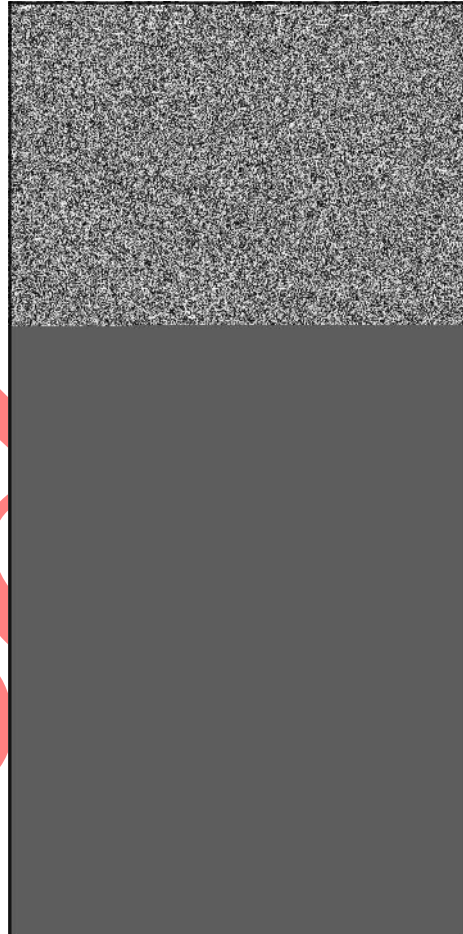

Figure 24
1. Remove muffler brace screws (**A, B, C**, Figure 24) and supports.